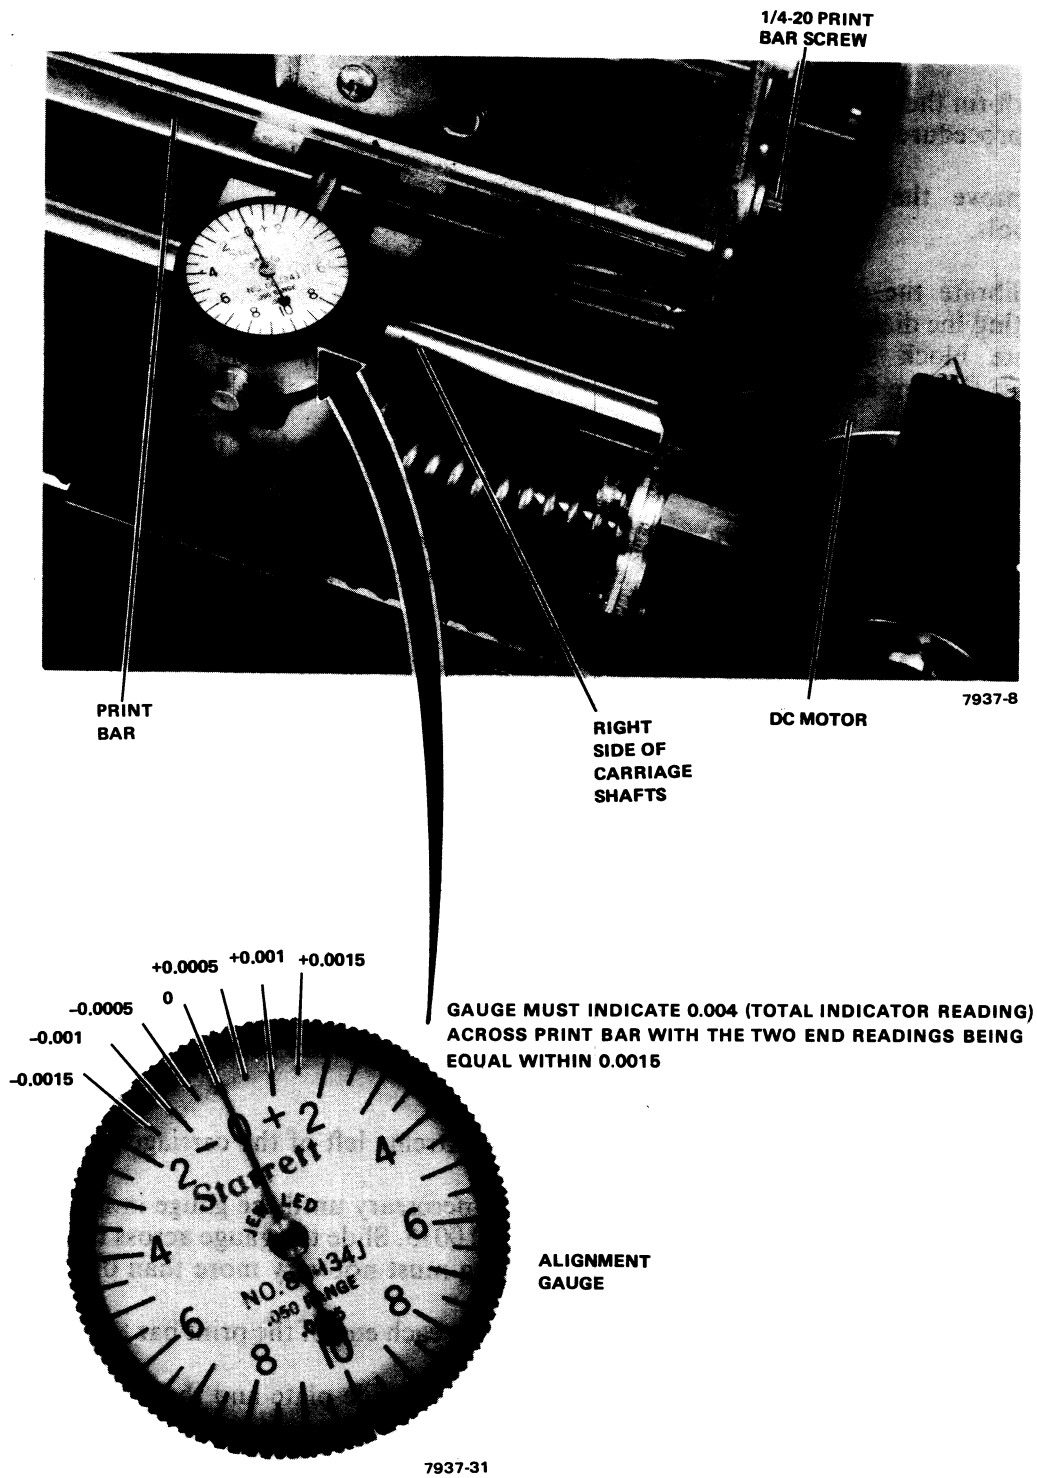

Figure 8-8 Print Bar Adjustment
5. Remove the calibrate block from the front of the gauge and set the gauge on the extreme right of the carriage shafts (Figure 8-8). Record the gauge indication.